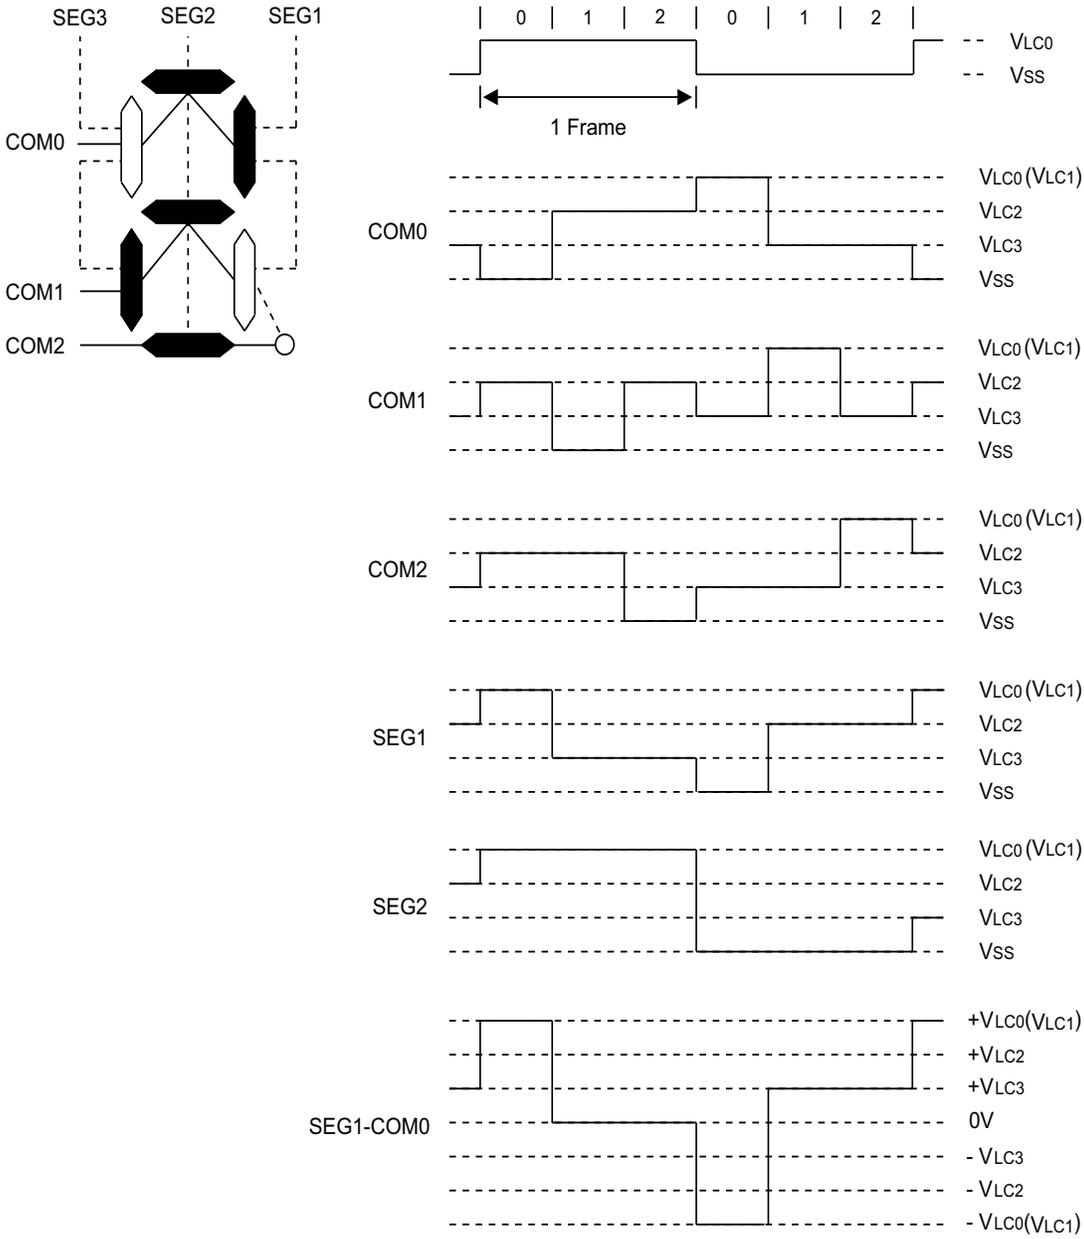

Figure 94. LCD Signal Waveforms: 1/3 Duty, 1/3 Bias
► **Note:** In Figure 94,  $V_{LC0} = V_{LC1}$ .